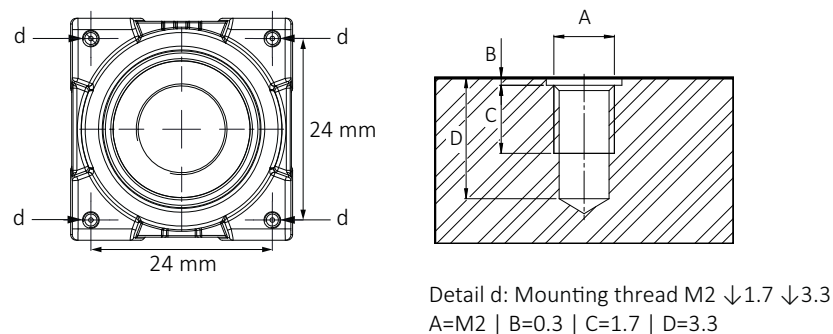

Figure 98: Camera front with mounting threads (d)
1. Mount the camera to the base using suitable M2 screws at 0.17 Nm maximum torque for a thread engagement (C) of 1.7 mm between screws and mounting threads, see Figure 98. For technical drawings, see Standard Alvium: Dimensions and mass on page 214.